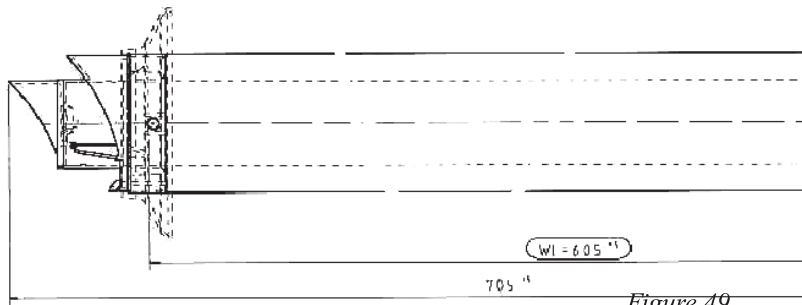

Figure 49
- ❑ Remove safety valve from hydraulic kit and retain o-ring for use on reassembly. (Figure 49)